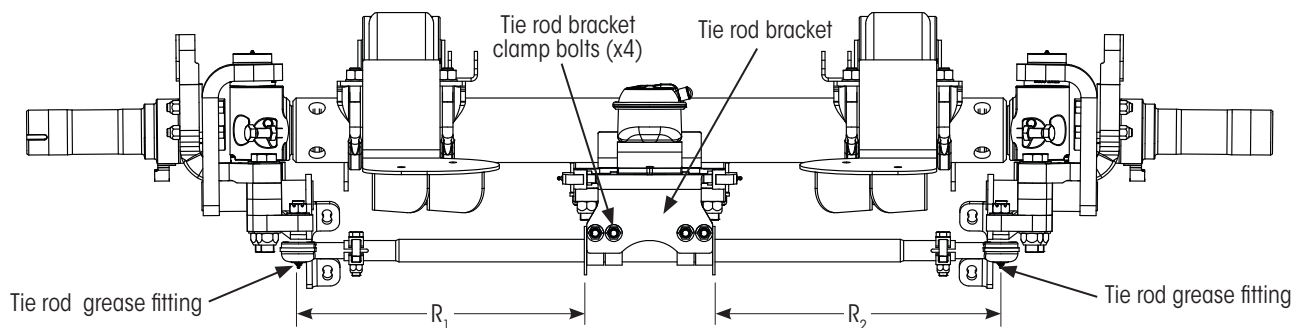

Figure 31: Tie rod end clamp orientation
- D. **Measure** to ensure, in Figure 31,  $R_1 = R_2 \pm 0.09$  inch (2.3 mm).